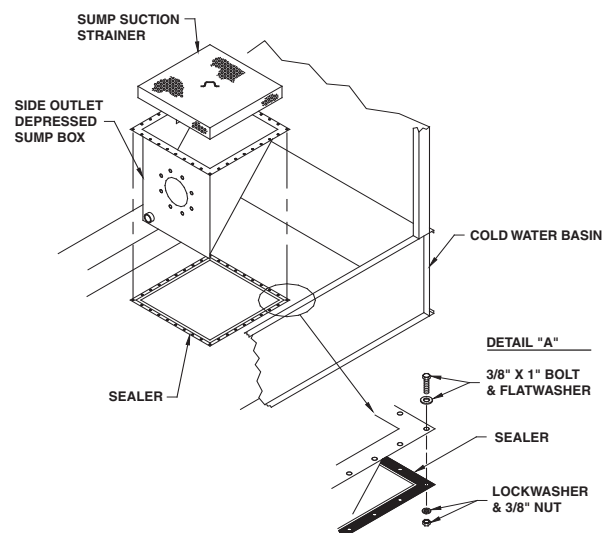

Figure 14
1. Wipe the edges around the opening in the cold water basin to remove any dirt or moisture that may have accumulated during shipment. Apply a layer of 1/8" x 1" butyl sealer tape around the opening in the basin over the centerline of the holes. Do not stretch the sealer too thinly or overlap at the corners. When it is necessary to splice the sealer, be sure to press the two ends together to form a smooth continuous strip. Apply a second layer of sealer tape over the first layer following the same procedure. Refer to Figure 14
2. Insert the sump box assembly into the opening in the cold water basin and attach it to the basin with 3/8" x 1" bolts, nuts, flat washers, and lock washers as shown in Figure 14, Detail A